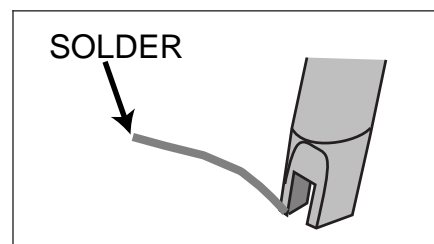

Figure 2 Tin Tip
6. Tin bottom edges of tip with solder. (See Figure 2.)